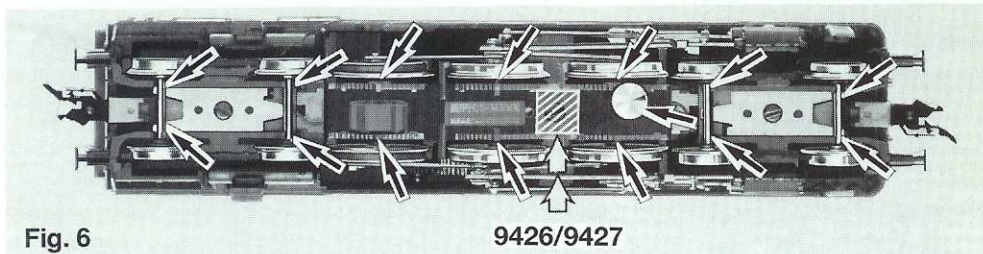

Fig. 6
Zwei Räder sind zusätzlich mit **Haftreifen** ausgerüstet (Fig. 6). **Ersatzhaftreifen: 544009**
An den markierten Stellen kann der **Schaltmagnet 9426/9427** eingebaut werden (Fig. 6).
Using one of the adhesive strips included with the TWIN DECODER, glue the decoder with the largest piece downwards onto the loco. Cut the second piece of adhesive strip to suit the length of the side of the connector. Glue the connector to the decoder using the adhesive strip. Please make sure here that the decoder and connector are electrically isolated from each other by the adhesive strip. The remainder of the adhesive strip can be used on the bottom of the condenser fitted to the decoder with green wires (fig 6). Finally fix the condenser onto the loco. Replace the loco body and secure with the screw **a**. The loco can now be run using the address "3".
Two wheels are fitted with **traction tyres** (fig. 6). **Spare traction tyres: 54 4009.**
The indicated points can be used for locating the **switching magnet 9426/9427** (fig. 6).
Deux roues sont équipées de bandages (fig. 6). **Bandages de rechange: 54 4009.**
L'aimant permanent 9426/9427 peut être monté aux endroits indiqués (fig. 6).
Twee wielen zijn van **anti-slipbandjes** voorzien (fig. 6). **Reserve-antislipbandjes: 544009.**
Op de gemerkte plaats kan de **schakelmagneet 9426/9427** gemonteerd worden (fig. 6).
To hjul er udstyret med **friktionsringe 54 4009** (Fig. 6).
**Kontakt-magnet 9426/9427** kann monteres på de viste sleder (Fig. 6).
Due ruote sono provviste di ruote di aderenza. (fig. 6). **Anelli attrito di ricambio: 54 4009.**
Sul posto segnato può essere installato il **dispositivo di comando 9426/9427** (fig. 6).